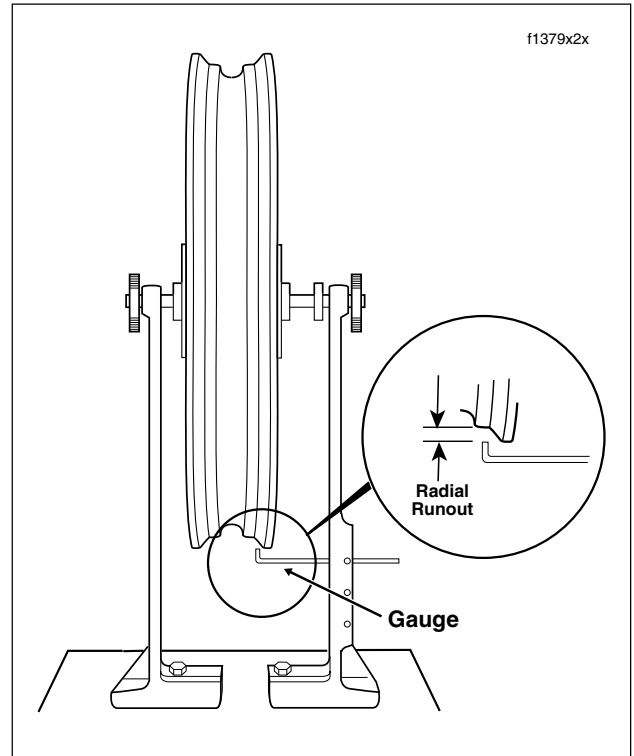

Figure 2-28. Truing Rim Radially
2. See Figure 2-28. Install truing arbor in wheel hub and place wheel in WHEEL TRUING STAND, Part No. HD-99500-80. Tighten arbor nuts so hub will turn on its bearings.
5. See Figure 2-28. After rim has been trued sideways it must be checked and trued radially. Adjust truing stand gauge to the rim's tire bead seat as shown. The rim should be trued within 1/32 inch (0.79 mm).